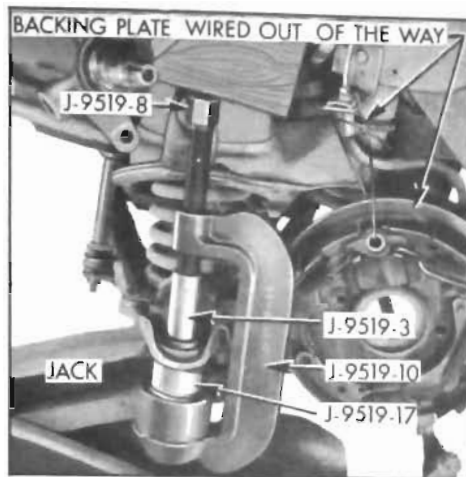

Figure 7-15—Lower Ball Joint Remover Tool in Place
2. Remove the brake backing plate. If the backing plate is wired carefully out of the way as shown in Figure 7-15, there will be no need to disconnect the brake hose.
6. Install Lower Ball Joint Remover and Installer J-9519 as shown in Figure 7-15. Note that the larger O.D. portion of Detail J-9519-17 is positioned in J-9519-10.